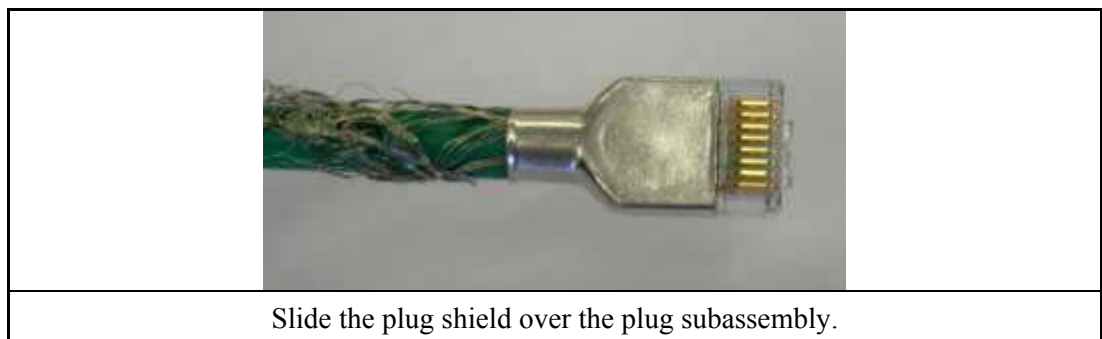

Figure D-16: Connector Termination, Position Plug Shield
1. Slide the plug shield over the plug subassembly until it seats against the front edge of recessed area around the outside of the plug housing, as shown in Figure D-16.